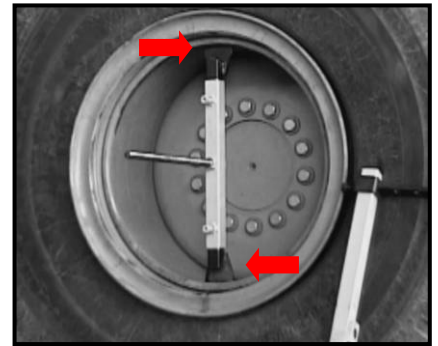

FIGURE 1
1. Place bottom cross bar, the bar with the two black ends as seen in **Figure 1**, inside of wheel at twelve and six o'clock position. Make sure the gripping plates are tight against the inner bevel of the wheel, adjust by loosening set bolts and sliding out until tight then tighten set bolts, adjust bottom gripping plate and then top, making sure as center as possible.